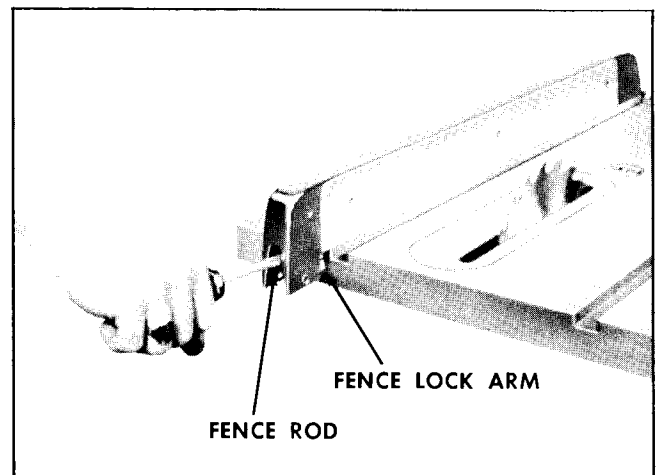

FIGURE 8
1. With the Cam Lock Handle in the unlocked position, turn Fence Rod, No. 51, in a clockwise direction to attain required pressure. (See Fig. 8.)